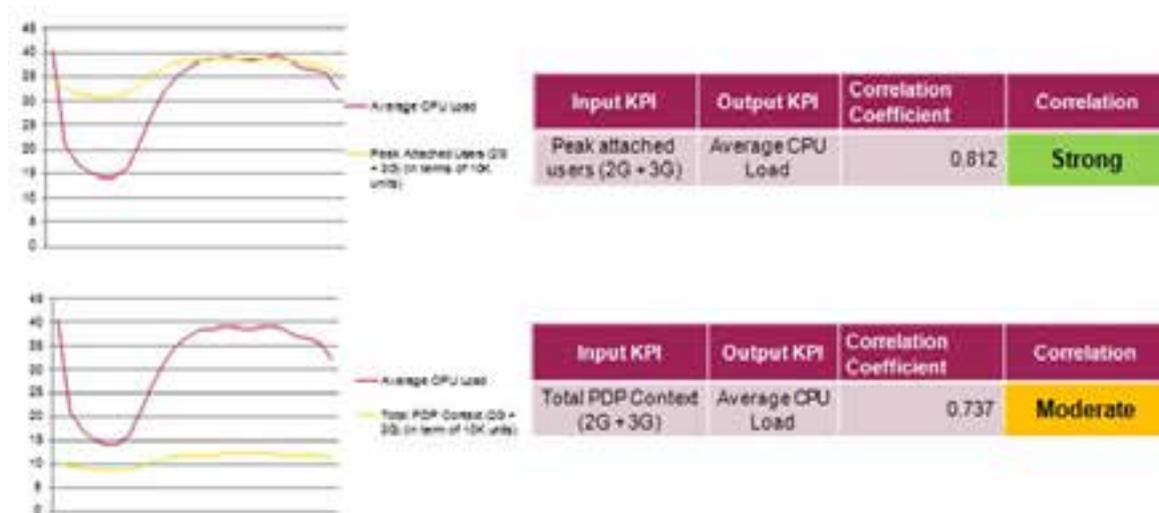

Figure 6: Mathematical Correlation of Attached User and Avg. CPU KPI
a) In 3G, any CSP might be certainly interested to find the impact of the number of connected user sessions, at any time, on CPUs of different NEs. In Figure 5, a visual correlation between Attached Users and CPU KPI has been shown. The histogram represents the reading of CPU KPI and the continuous deep blue curve on top of the histogram represents the data reading for attached users at the same time scale (or can be lower) as CPU. The X-axis of the graph represents the time stamp when both KPIs data has been collected; the left hand Y-axis represents the unit for Attached Users KPI in thousands and the right hand Y-axis represents the unit for CPU KPI in percent. The horizontal red line represents the peak value for CPU and the horizontal blue line represents the peak value for attached user. Similarly, Figure 6 illustrates, a mathematical correlation being calculated between Peak Attached User and Average CPU Load KPI. The algorithm is being executed in two different data sets to establish, how Subex’ solution intelligently distinguishes different levels of correlations based on available data.